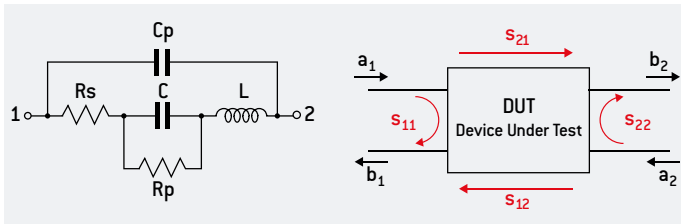
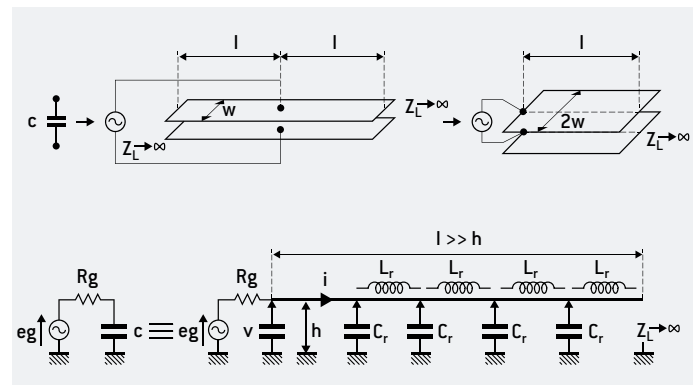
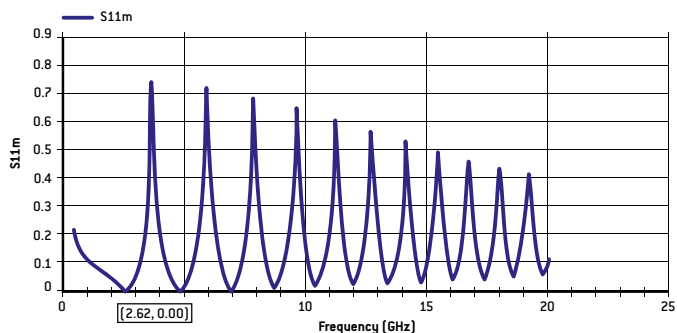
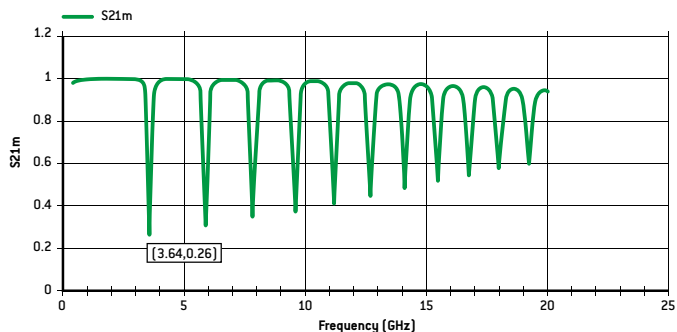

Figure 1: Equivalent Model
Figure 7: Transmission line model of a Single Layer Capacitor
Figure 4: S11curve for a 251SHF150 from EXXELIA ABC software
Figure 5: S21curve for a 251SHF150 from EXXELIA ABC software
The equivalent model for a capacitor is usually defined by the figure 1 where:
The variation of S11 (figure 4) and S21 (figure 5) show the different resonance frequencies SRF [serial resonance frequency] and PRF [parallel resonance frequency]
For example for a 251SHF150 (size 0805 and capacitance 15pf): SRF=2.64 GHz and the ESR at this frequency is 0.200 ohm (figure 5)
- The PRF is associated with the parasitic capacitance Cp defined in figure 1. Assuming that Cp << C, then:
The PRF could be determined by the S21 measurements (figure 5)
The lumped model shown in Fig. 1 explains only the existence of one serial self-resonant frequency and one parallel self-resonant frequency, consequently, the lumped model is unable to explain why real measurements exhibits a double infinity of self-resonant frequencies (see figures 4, 5 & 6).
It is currently admitted [Ref.1] that the lumped model shown in Fig. 1 is convenient only for frequencies that are lower than roughly the half of the first SRF. For frequencies close or above the first SRF, it is mandatory to consider the distributed model or transmission line model [Ref.1].
This distributed model can be established more easily with the equivalent circuit of a Single Layer Capacitor (SLC) shown in Fig. 7:
After examination of Fig. 7, one can see that a Single Layer Capacitor can be modeled by a transmission line with an open termination that is currently called an "open stub".
Consequently, for predicting and understanding the behavior of a capacitor at frequencies that are close or above the first SRF, the lumped model (shown in Fig. 1) is not applicable and must be replaced by the distributed model or transmission line model (shown in Fig. 7).